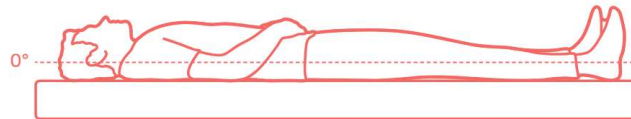

Figure 6: Patient Position during CardioTag data collection
- Remove the clear plastic backing of the two (2) electrodes that are attached to the back of CardioTag to expose the adhesive surface.
- Patients should lie down in a flat position on their back with their legs straight in front of them (i.e. in a supine position) on a comfortable surface, as shown in Figure 6 below.